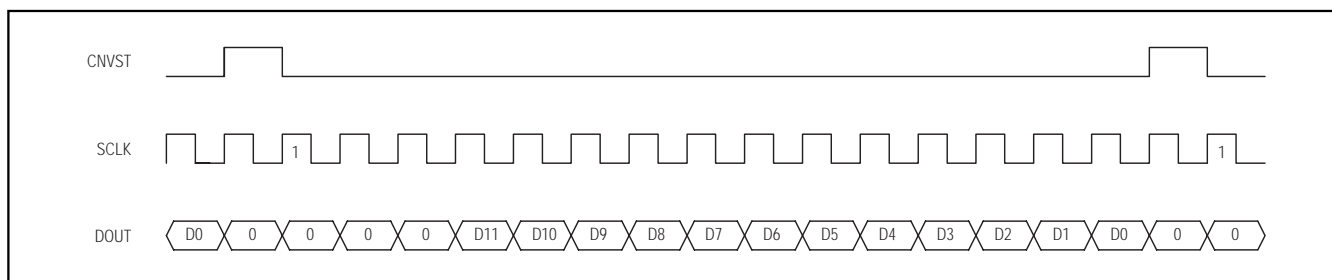

Figure 17. DSP Interface—Continuous Conversion
The MAX1277/MAX1279 can also be connected to the TMS320C54\_ by using the data transmit (DX) pin to drive CNVST and the CLKX generated internally to drive SCLK. A pullup resistor is required on the CNVST signal to keep it high when DX goes high impedance and 0001hex should be written to the DXR continuously for continuous conversions. The power-down modes may be entered by writing 00FFhex to the DXR (see Figures 17 and 18).
and for an active-low frame (LTFS = 1, LRFS = 1) signal. This is also the best way to enter the power-down modes by setting the word length to 8 bits (SLEN = 1001). Connect the VL pin to the ADSP21\_... supply voltage when the MAX1277/MAX1279 are operating with a supply voltage higher than the DSP supply voltage (see Figures 17 and 18).